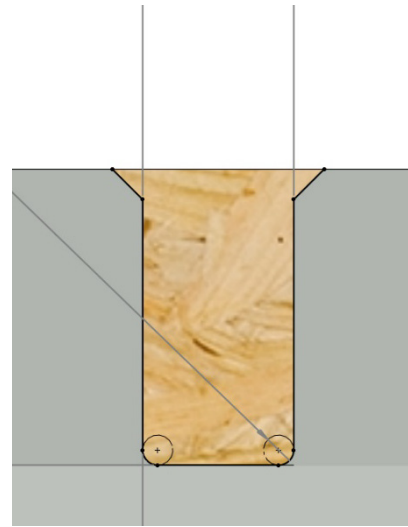

Figure 11 – Upstand drill section.
2. Drill x 2 by 10mm holes as indicated, jigsaw out remainder of shape leaving radiused corners at bottom. Chamfer top corners as shown to aid installation – *see figure 11*.